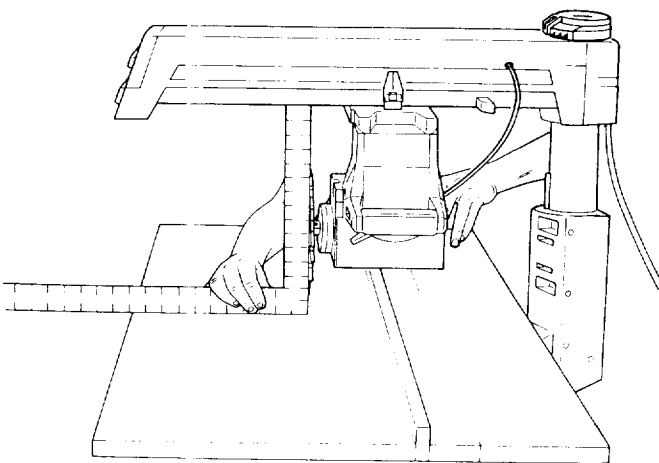

Fig. 68
3. Place the long edge of the framing square on the *table* and the short edge against the *blade* alongside the *arbor shaft*. Make sure the square is against the surface of the *blade* and not on the set of a tooth. (Figure 68)